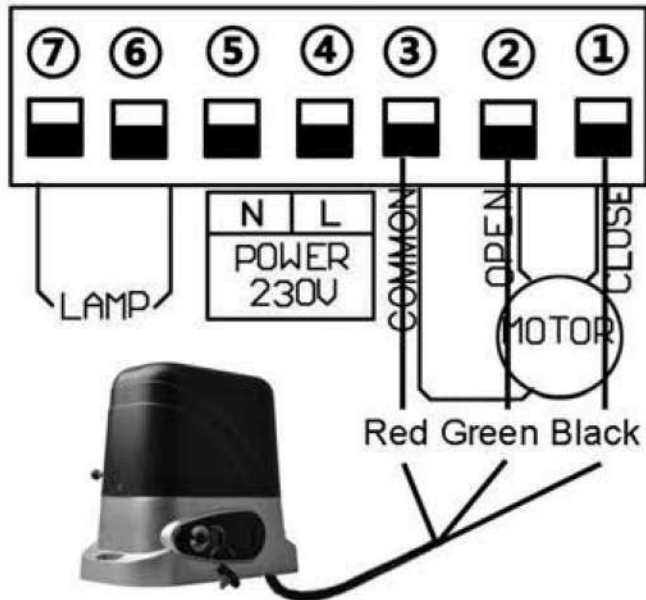

Fig 8
- 6.2.2. Install the motor on the left of gate. (Please see Fig 8)